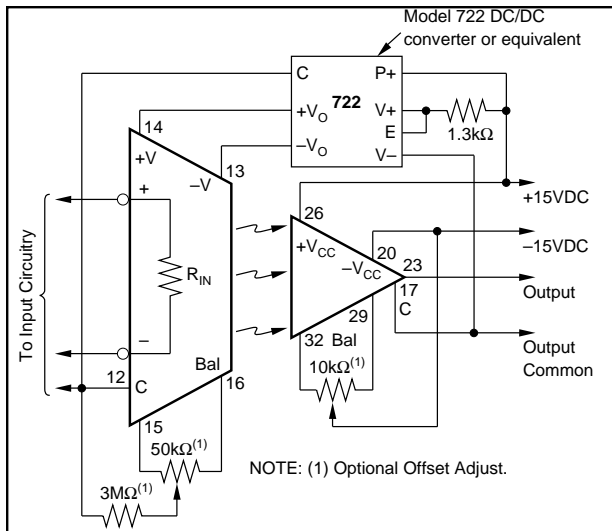

FIGURE 5. Power and Offset Adjust Connections.
The power supply connections for the 3650 and 3652 are shown in Figure 5. When a DC/DC converter is used for isolated power, it is placed in parallel with the isolation barrier of the amplifier. This can lower the isolation impedance and degrade the isolation-mode rejection of the overall circuit. Therefore, a high quality, low leakage DC/DC converter such as the Burr-Brown Model 722 should be used.
The offset nulling circuits are identical for the 3650 and 3652 and are shown in Figure 5. The offset adjust circuitry is optional and the units will meet the stated specifications with the BAL terminals unconnected. Provisions are available to null both the input and output stage offsets. If the amplifier is operated at a fixed gain, normally only one adjustment will be used: the output stage (10kΩ adjustment) for low gains and the input stage (50kΩ adjustment) for high gains, ( $>10$ ).
NOTE: (1) The offset adjustment circuitry and power supply connections have been omitted for simplicity. Refer to Figure 5 for details. (2) IMRR here is in pA/V, typically 5pA/V at 60Hz and 1pA/V at DC.
NOTE: (1) The offset adjustment circuitry and power supply connections have been omitted for simplicity. Refer to Figure 5 for details.